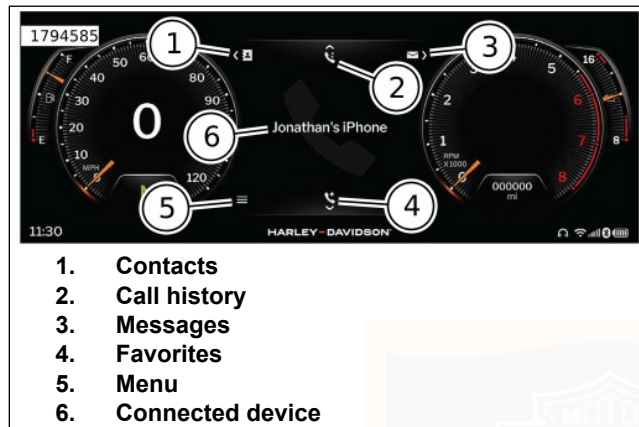

Figure 72. Phone Selections
2. Select one of the phone features. See Figure 72.
2. See Figure 72. Select contacts (1) or call history (2) to find contact number.
See Figure 72. To access messages select Message Icon(3).